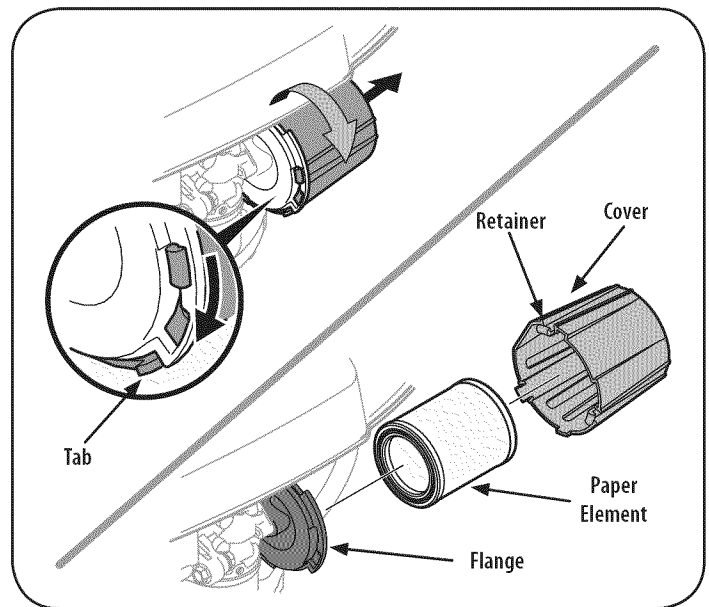

Figure 17
1. Turn cover to left (counterclockwise) and remove it and paper element from flange. See Figure 17.